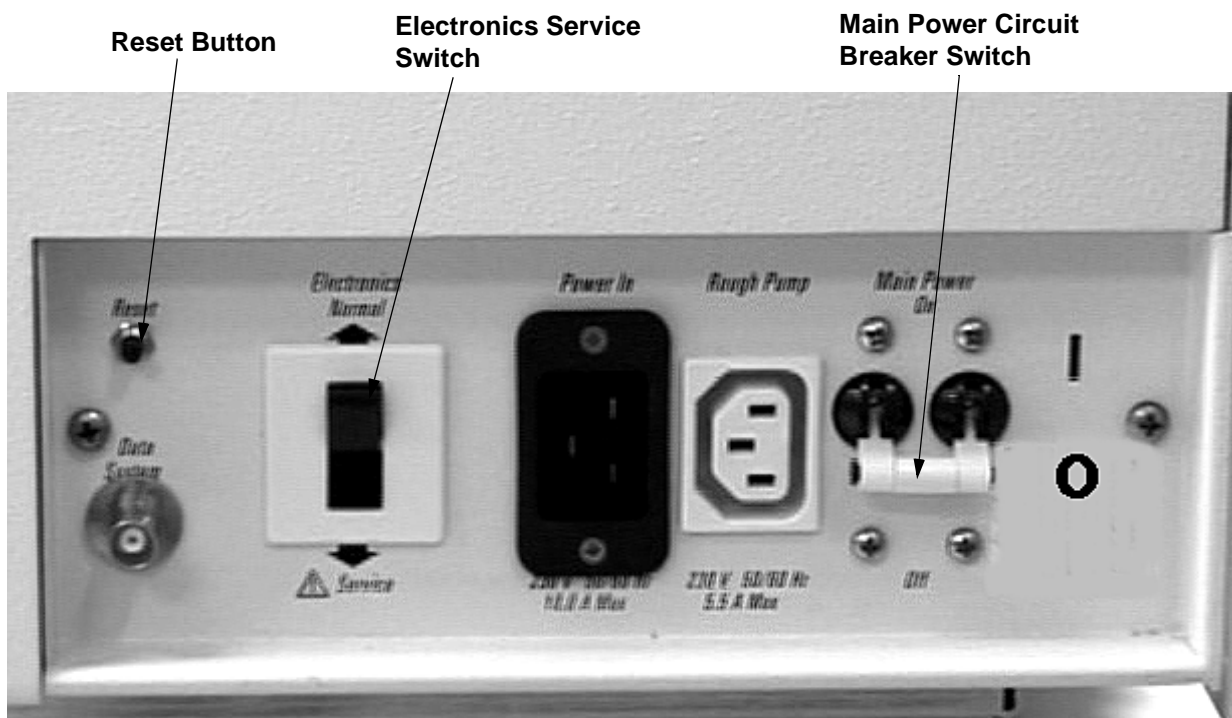
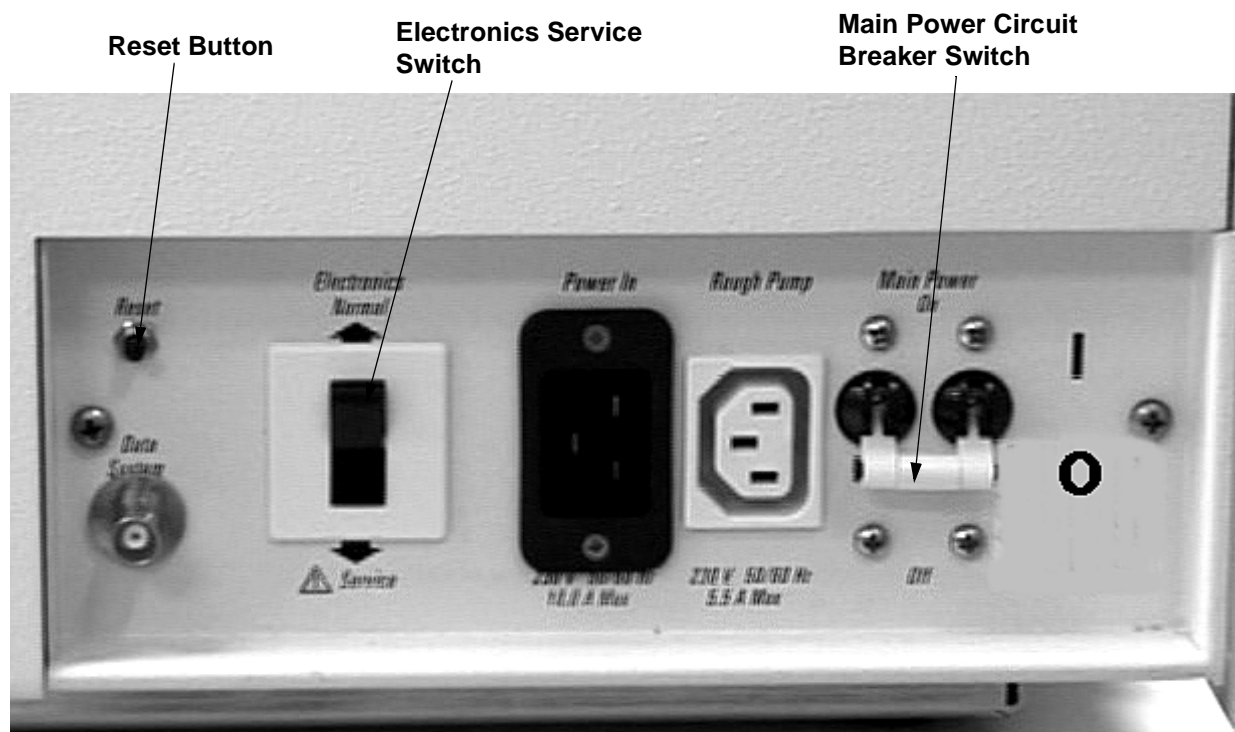

Figure 2-6. LCQ Advantage MAX Power Panel
Figure 2-7. LCQ Deca XP MAX Power Panel
The **main power circuit breaker switch** (labeled *Main Power*) is located on the power panel at the lower right corner of the right side panel of the MS detector. See Figure 2-6 and Figure 2-7. In the Off (O) position, the circuit breaker removes all power to the MS detector, including the vacuum pumps. In the On (I) position, power is supplied to the MS detector. In the standard operational mode, the circuit breaker is kept in the On (I) position.